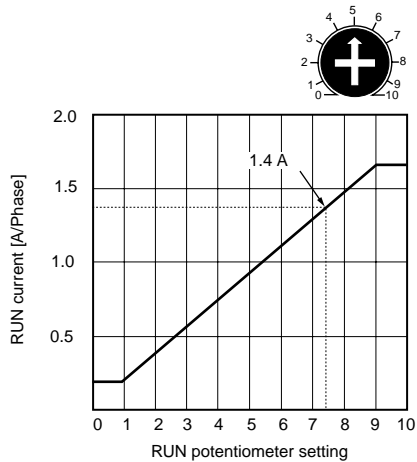

Figure 12 RUN Potentiometer Settings
Your driver is delivered with the RUN current set to the rated operating current. To change this value to reduce heat dissipation at high duty cycles, adjust the RUN potentiometer on the **CFK** driver to the appropriate current value setting shown in Figure 12.
4. Connect the power supplies, turn on the 5 VDC and 24 VDC, and adjust the RUN potentiometer to the RUN current value of the appropriate graph in Figure 12.